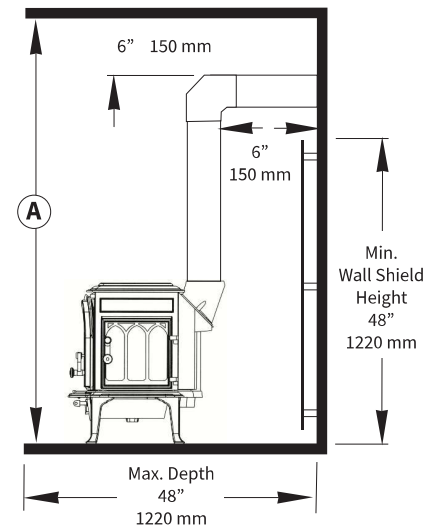

Figure 49. Alcove Ceiling and Double-wall Connector Clearances.
- Min. Ceiling & Connector Clearance, Fig. 49.